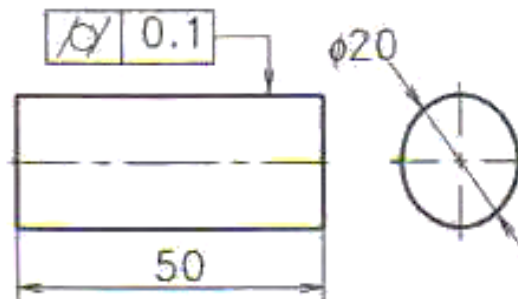

Fig.1
- b) Interpret the geometrical tolerance shown in **Fig. 1** with the help of a neat sketch, after copying the figure. **05**